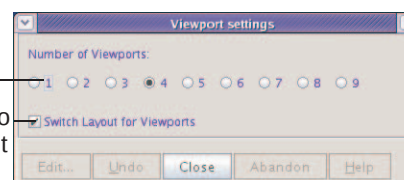

Figure 108. Viewport settings window
2. Select **Viewports...** to open the Viewports settings window, see Figure 108.